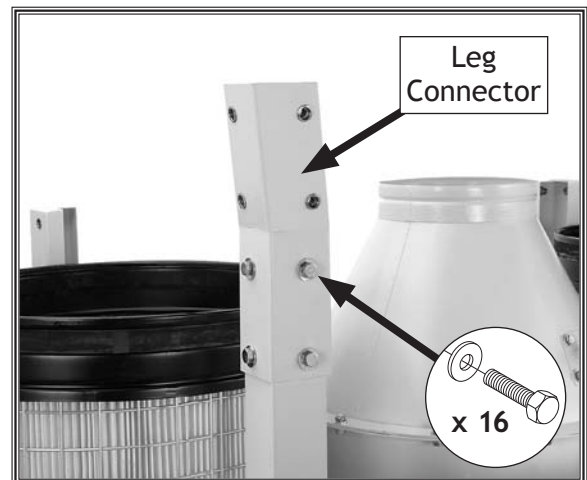

Figure 15. Stand leg connector attached to the upper stand leg.
10. Slide the four stand leg connectors onto the upper stand legs, then connect them with (16) $\frac{3}{8}$ "-16 x $\frac{3}{4}$ " hex bolts and (16) $\frac{3}{8}$ " flat washers, as shown in **Figure 15**.